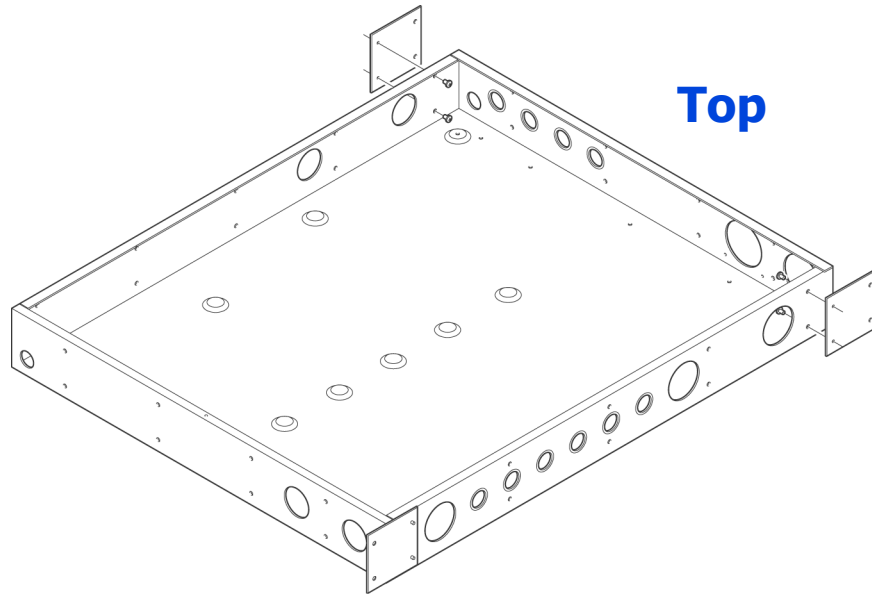

Figure 3 - Flush Mounting Hardware
- 2 Locate the Flush Mount Hardware and place on the side of the cabinet as shown in Figure 3.